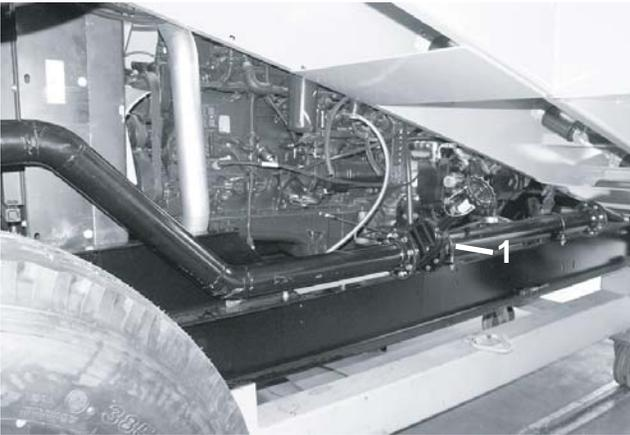

Figure 19. Gate Valve
5. Make sure the gate valve, (Fig 19) in the suction tube is turned fully open (counterclockwise) with sleeve and handle installed. Do not attempt to start the engine with the gate valve closed. This will block the flow to the pumps and cause cavitation.